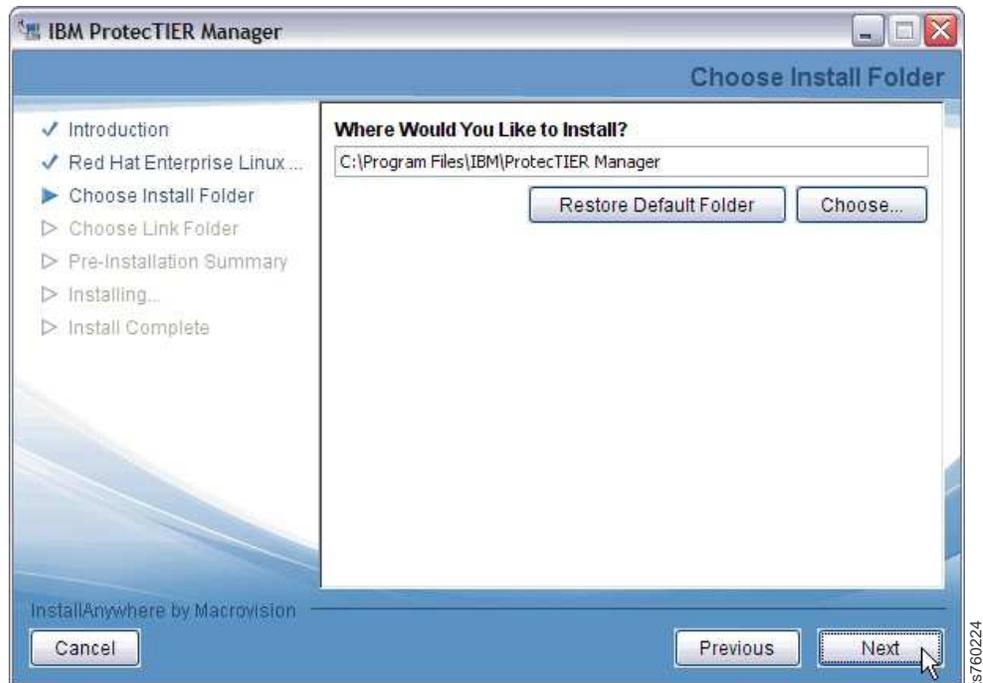

Figure 6. Choose **Install Folder** window
4. Read and accept the terms of each license agreement, and then click **Next**. The **Choose Install Folder** window opens. See Figure 6 on page 15.